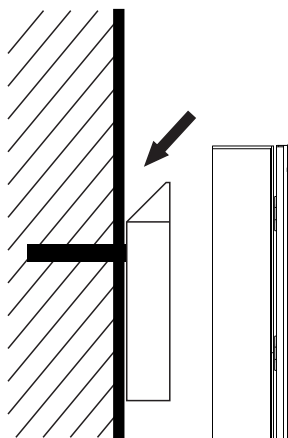
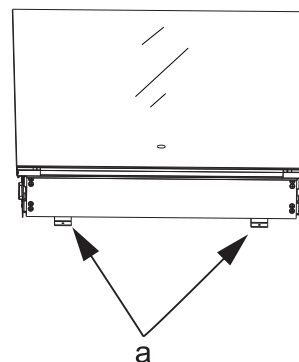

Fig.15
Fig.16
- 2.1 Install the mirror cabinet on the hanging strip, see details in (Fig.15). Choose right locating place and use pencil to make sign on the wall through the base fixing the hole (a) (Fig.16).